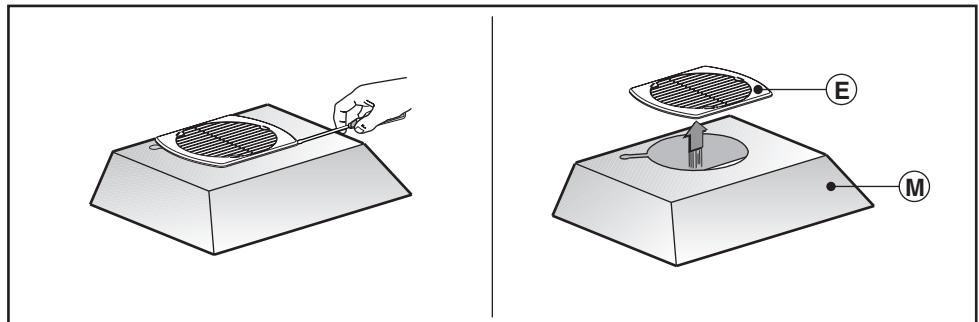

Fig.6
- Unclip the canopy **M** and remove the grille **E** (**Fig.6**).